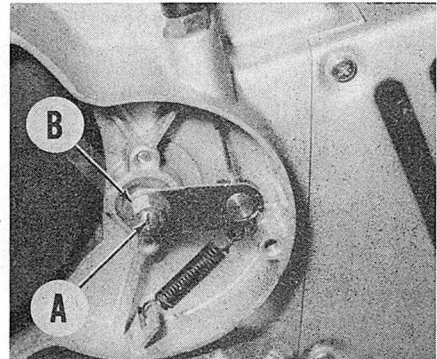

Fig. S14-8—Clutch is adjusted by turning screw (A). Make certain that lock nut (B) is tightened after adjustment.
some slack exists in linkage. Remove left side engine cover and loosen lock nut (B—Fig. S14-8). Turn adjusting screw (A) until it just contacts push rod, a slight resistance will be felt. Back adjusting screw (A) out  $\frac{1}{4}$ – $\frac{1}{2}$  turn from point of resistance and tighten lock nut (B). Turn cable adjusters to obtain approximately  $\frac{1}{8}$  inch free play in clutch lever pivot.